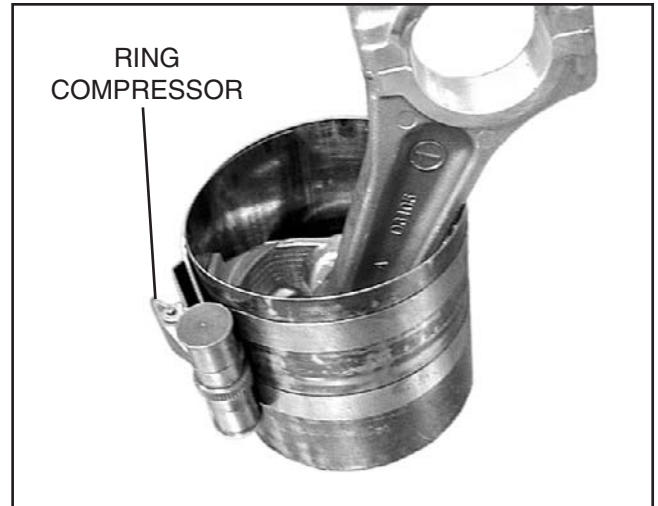

Figure 13-2. Compressing Rings
- b. Place piston inside of ring compressor and set upside down on bench with projections on compressor facing up Figure 13-2.